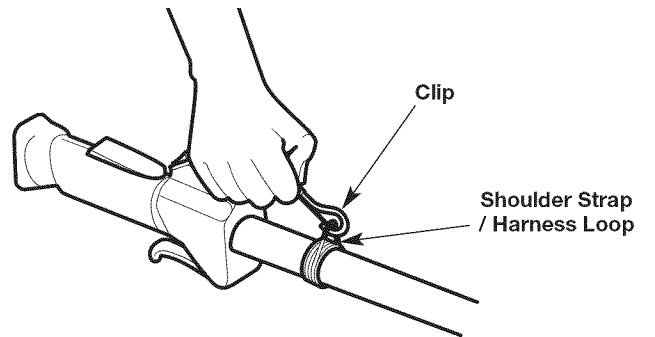

Fig. 9
5. Snap the clip onto the shoulder strap / harness loop (Fig. 9).